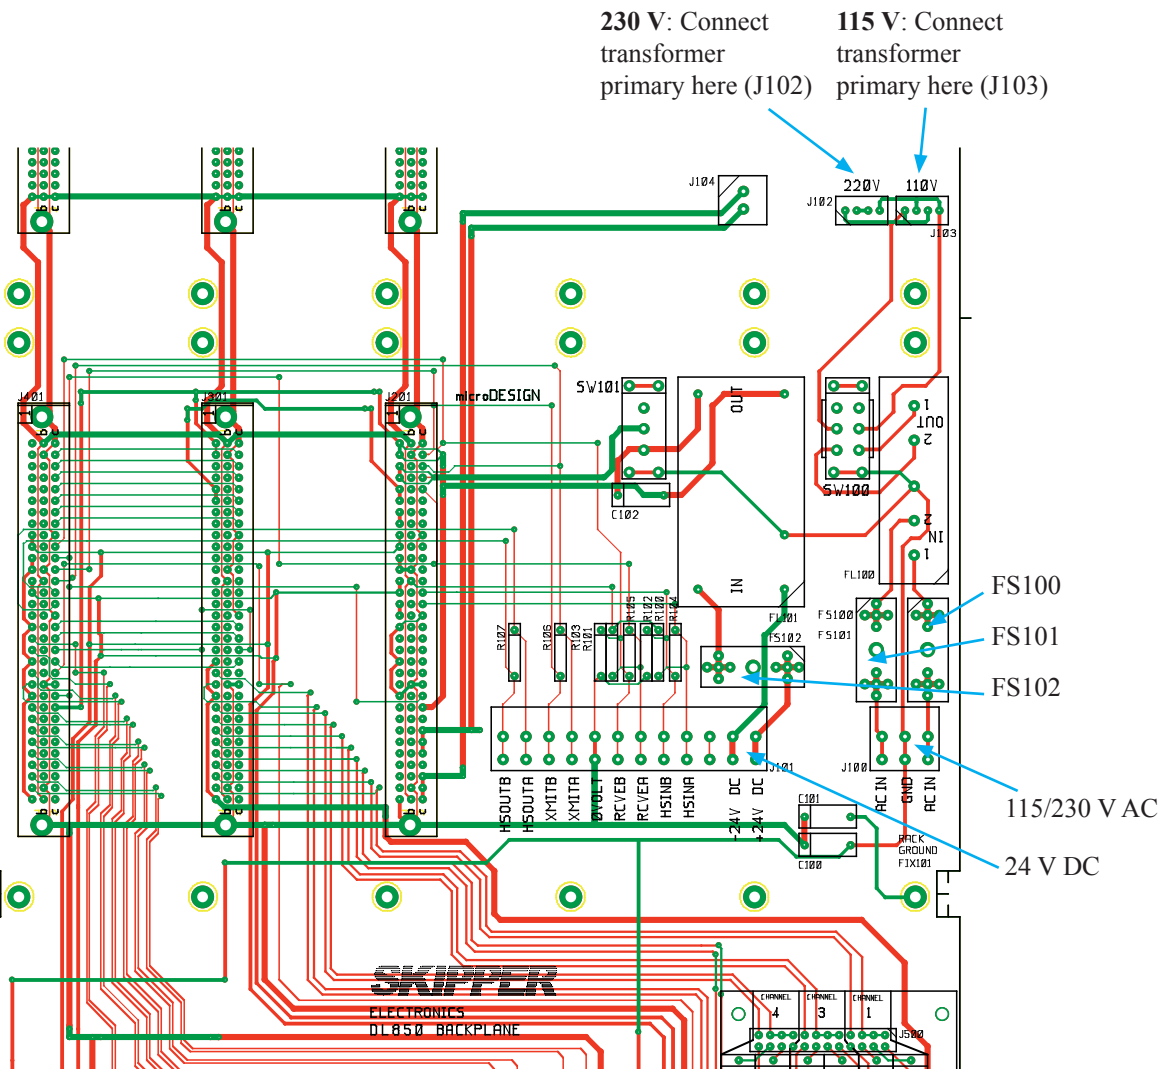

Fig. 10.8. 115/230 V selection on Transceiver unit backplane
- Fig. 10.8. 115/230 V selection on Transceiver unit backplane. See “115/230 V selection on backplane inside Transceiver Unit” on page 74.
If the AC power system is 115 V, the Transceiver unit may be prepared for 115 V AC by re-connecting the connectors J102, J103 as shown in figure 10.8.